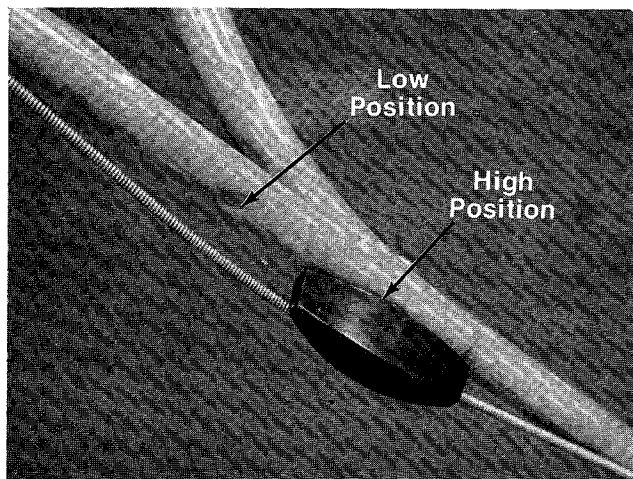

FIGURE 18.
4. There are two height positions for the handle. Place upper handle in position over lower handle, selecting hole for either high or low position. Refer to figure 18.
The upper handle can be adjusted to a high or low position. The operator of the lawn mower can easily adjust the handle position by unscrewing the two knobs, removing the two bolts and reassembling in the other position. No tools are necessary to make this adjustment. See figure 18.